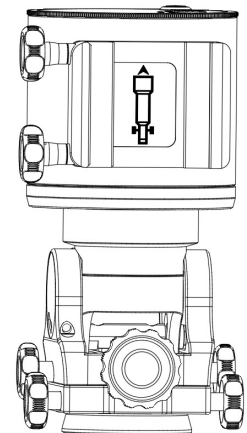

Fig. 3
2. For use in Alt-Azimuth (**AZ**) mode, rotate the Altitude adjustment knob until it stops turning and lock Latitude locking knobs. Leave the mount in upright position as shown in Fig.3